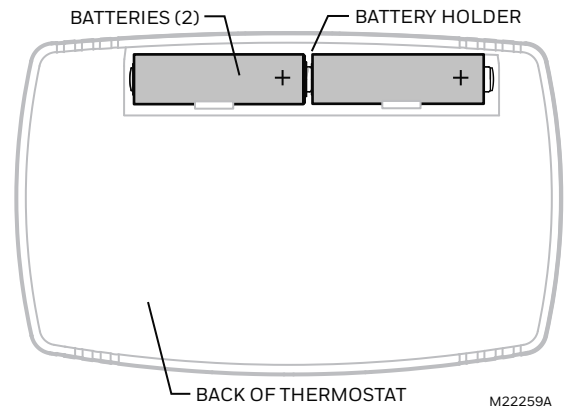

Fig. 23. Installing batteries.
1. Install two AA alkaline batteries on the back of the thermostat as marked. See Fig. 23.